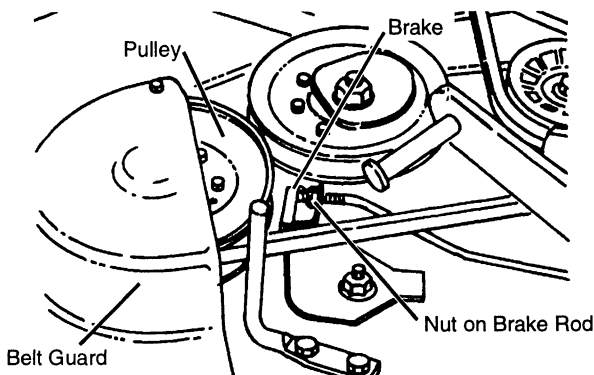

FIG. 36
- Measure the distance from brake surface to pulley braking surface. (See Fig. 36)